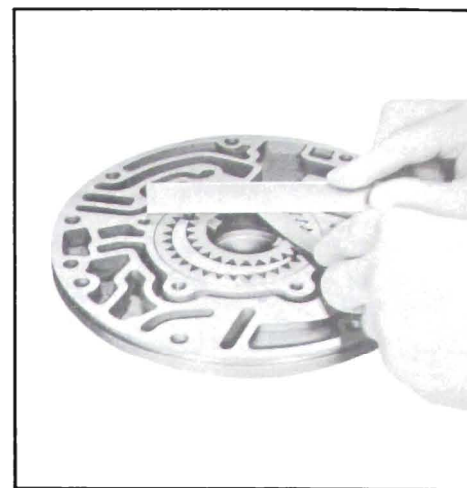

Figure 5-597
a. Pump body face to gear face clearance. Clearance should be .0008"-.0015". See Figure 5-597.